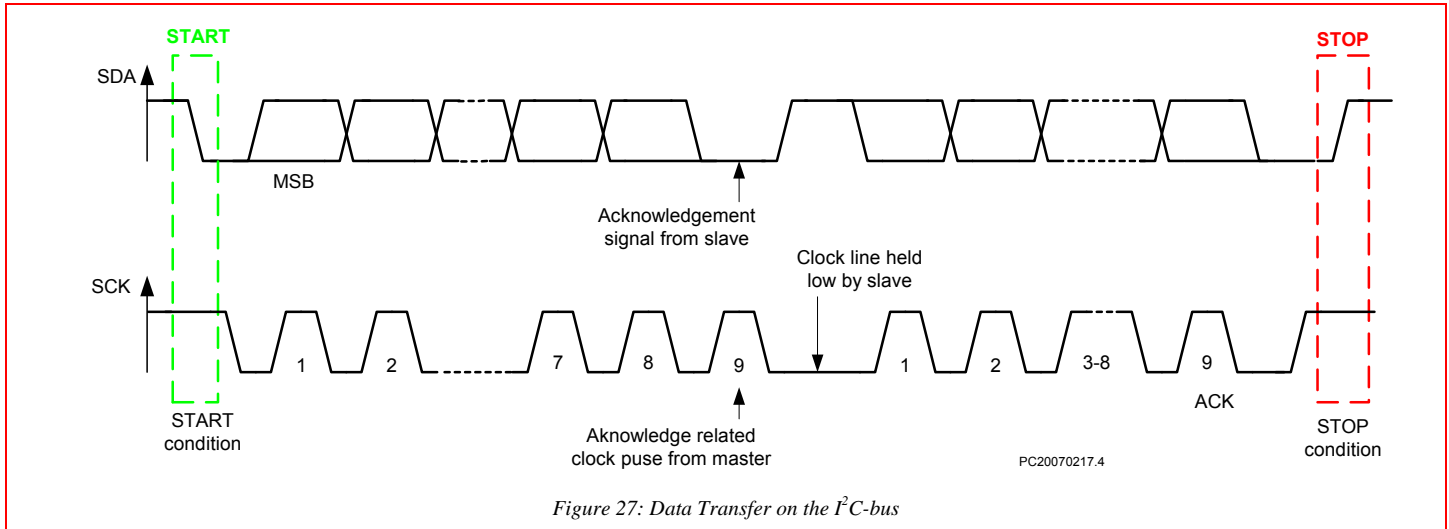

Figure 27: Data Transfer on the I2C-bus
The bus stays busy if a repeated START (Sr) is generated instead of a STOP condition. In this respect, the START (S) and repeated START (Sr) conditions are functionally identical (See Figure 27). The symbol S will be used to represent START and repeated START, unless otherwise noted.
Every byte put on the SDA line must be 8-bits long. The number of bytes that can be transmitted per transfer to AMIS-30624 is restricted to eight. Each byte has to be followed by an acknowledge bit. Data is transferred with the most significant bit (MSB) first (See Figure 27). If a slave can't receive or transmit another complete byte of data, it can hold the clock line SCK LOW to force the master into a wait state. Data transfer then continues when the slave is ready for another byte of data and releases clock line SCK.